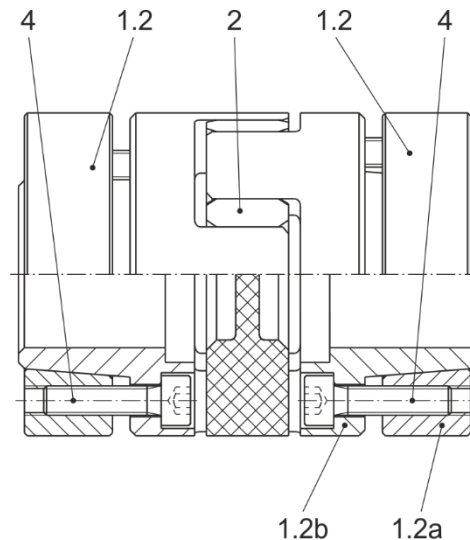

Fig. 9
Type 940_11_ (Fig. 9)
- Loosen all tensioning screws (4) by several thread turns.
- Tighten the tensioning screws (4) evenly and step-wise so that the shrink disk (1.2a) is loosened from the shrink disk hub (1.2b) (Fig.9).